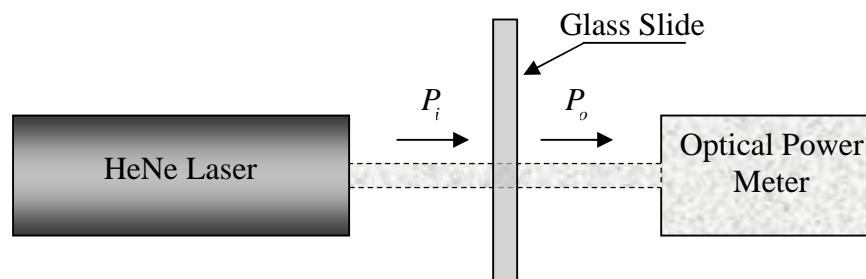

Figure 3: A Glass Slide Inserted between the Laser Source and the Optical Power Meter.
- 4- Insert the glass slide (the glass slide marked with 8 circles) between the laser source and the power meter (see Figure 3). The slide should be positioned so that the laser beam passes through circle number 1. [*The glass slide must be kept clean, by holding the slide on the sides only.*]